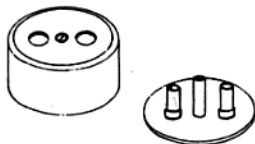

Fig. 2.6 Two-pin wall socket, 5 A, 250 V
**Two-Pin Wall Socket 5 A, 250 V** Its cover and base are also made of Bakelite. Two hollow pins of equal size are used in it for providing supply to the table lamp, fan, etc. (Fig. 2.6). It is not generally used nowadays as it has no provision for earth connection. Every socket is controlled by a switch.